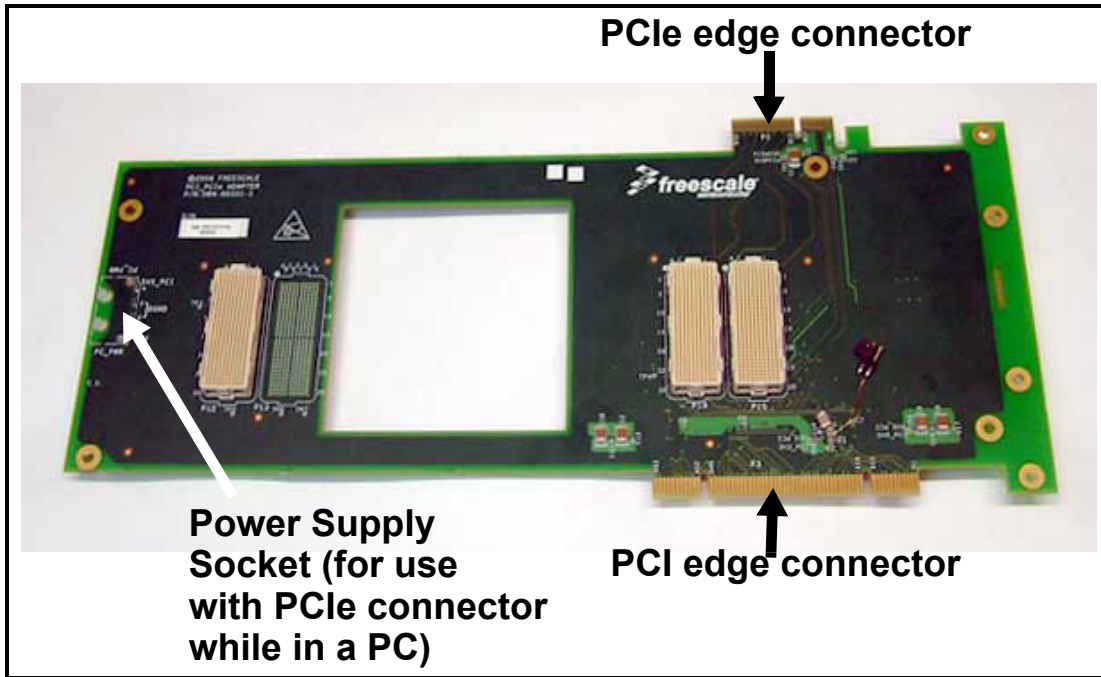
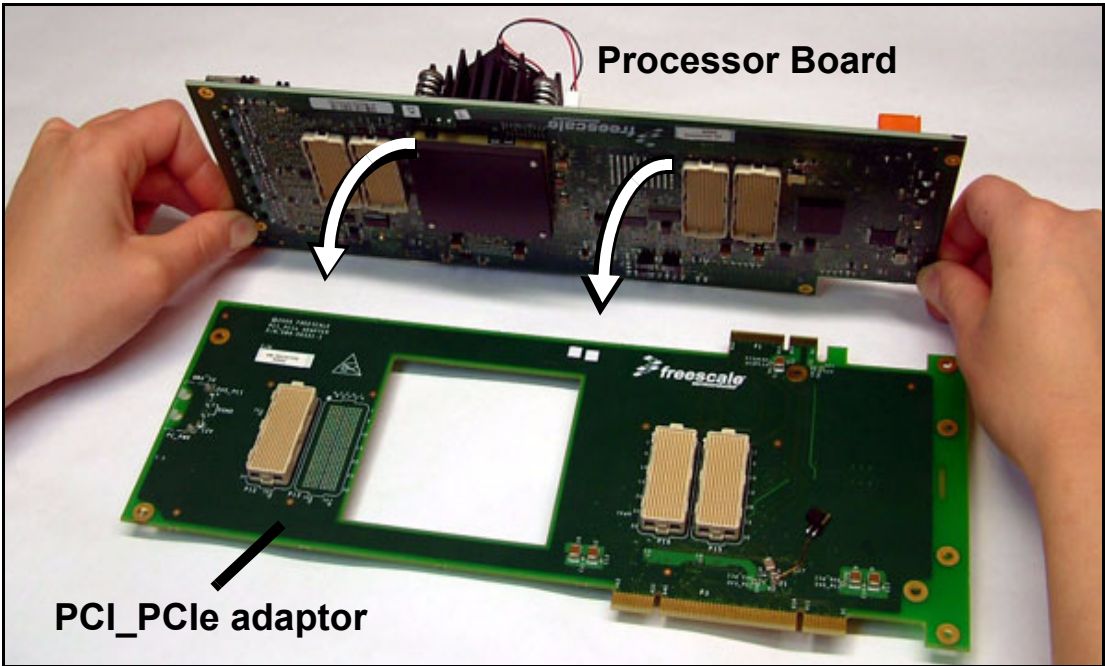
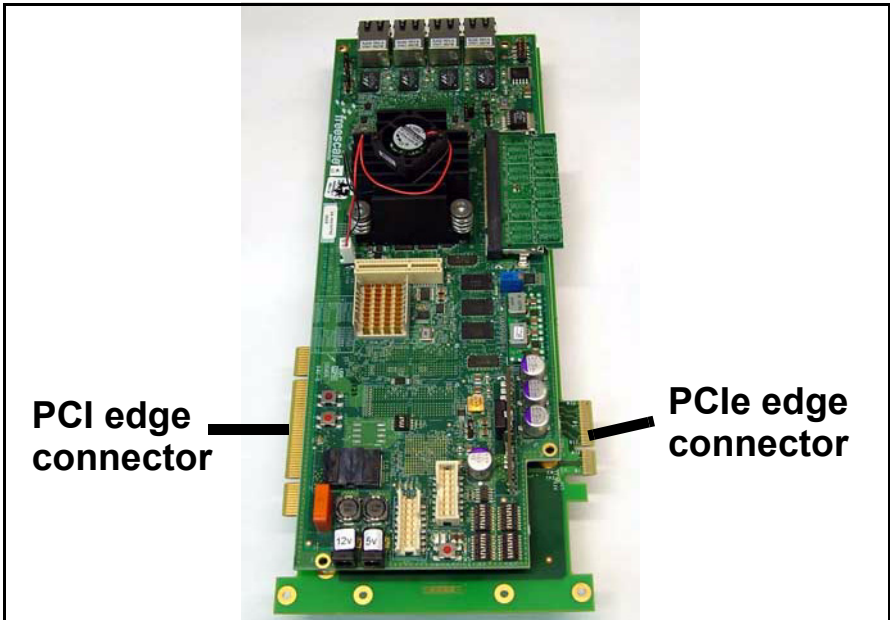

Figure 2-16. PCI\_PcIe adaptor
Figure 2-17. Fastening the PCI\_PClE adaptor to the MPC8568E MDS Processor Board
Figure 2-18. PCI adaptor attached to MPC8568E MDS Processor Board
2. Fasten the PCI\_PCIe adaptor (see Figure 2-16 on page 2-10) to the underside of the MPC8568E MDS Processor Board, as shown in Figure 2-17 on page 2-11 and Figure 2-18 on page 2-11.
- b) Fasten the PCI\_PCIe adaptor to the underside of the MPC8568E MDS Processor Board, as shown in Figure 2-17 on page 2-11 and Figure 2-18 on page 2-11.
2. Fasten the PCI\_PCIe adaptor to the underside of the MPC8568E MDS Processor Board, as shown in Figure 2-17 and Figure 2-18 on page 2-11.